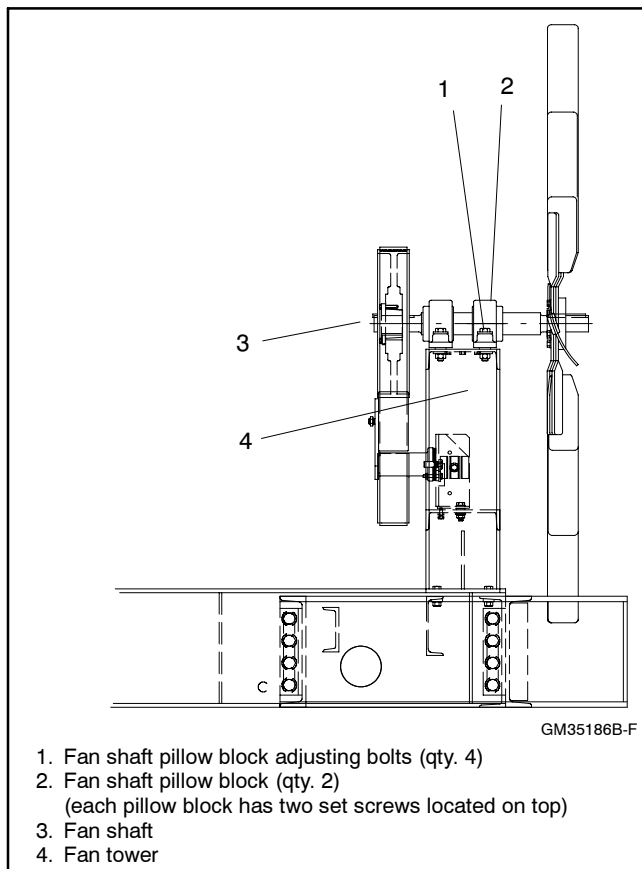

Figure 6 Idler Pulley Arm and Pulley Assembly
- 3.3 Adjust the fan pulley shaft so that it extends 209 mm (8.23 in.) behind fan tower. See Figure 6.
- 3.5 Loosen and remove set screws from the fan shaft pillow blocks. See Figure 6.